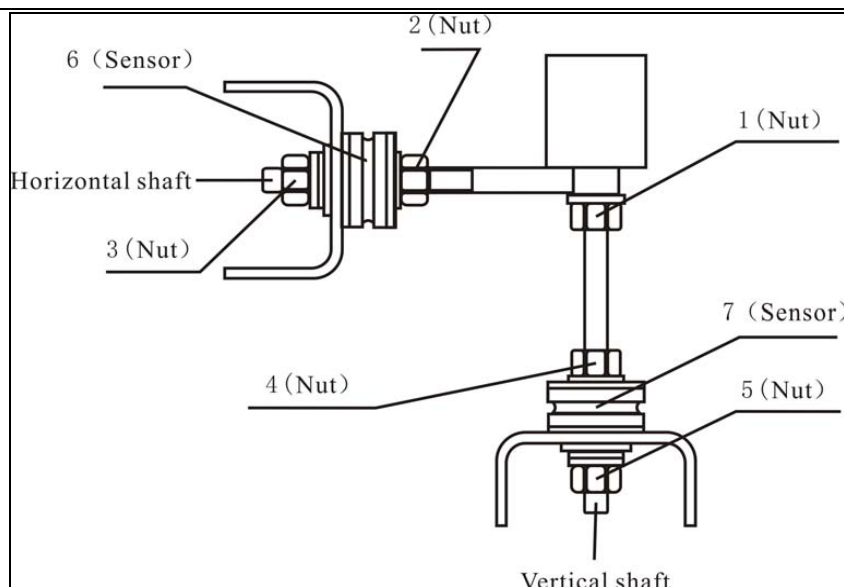

Fig14-1
4. Install the sensor and the nut according to the Fig 14-1. (Pay attention to the sensor's direction.)